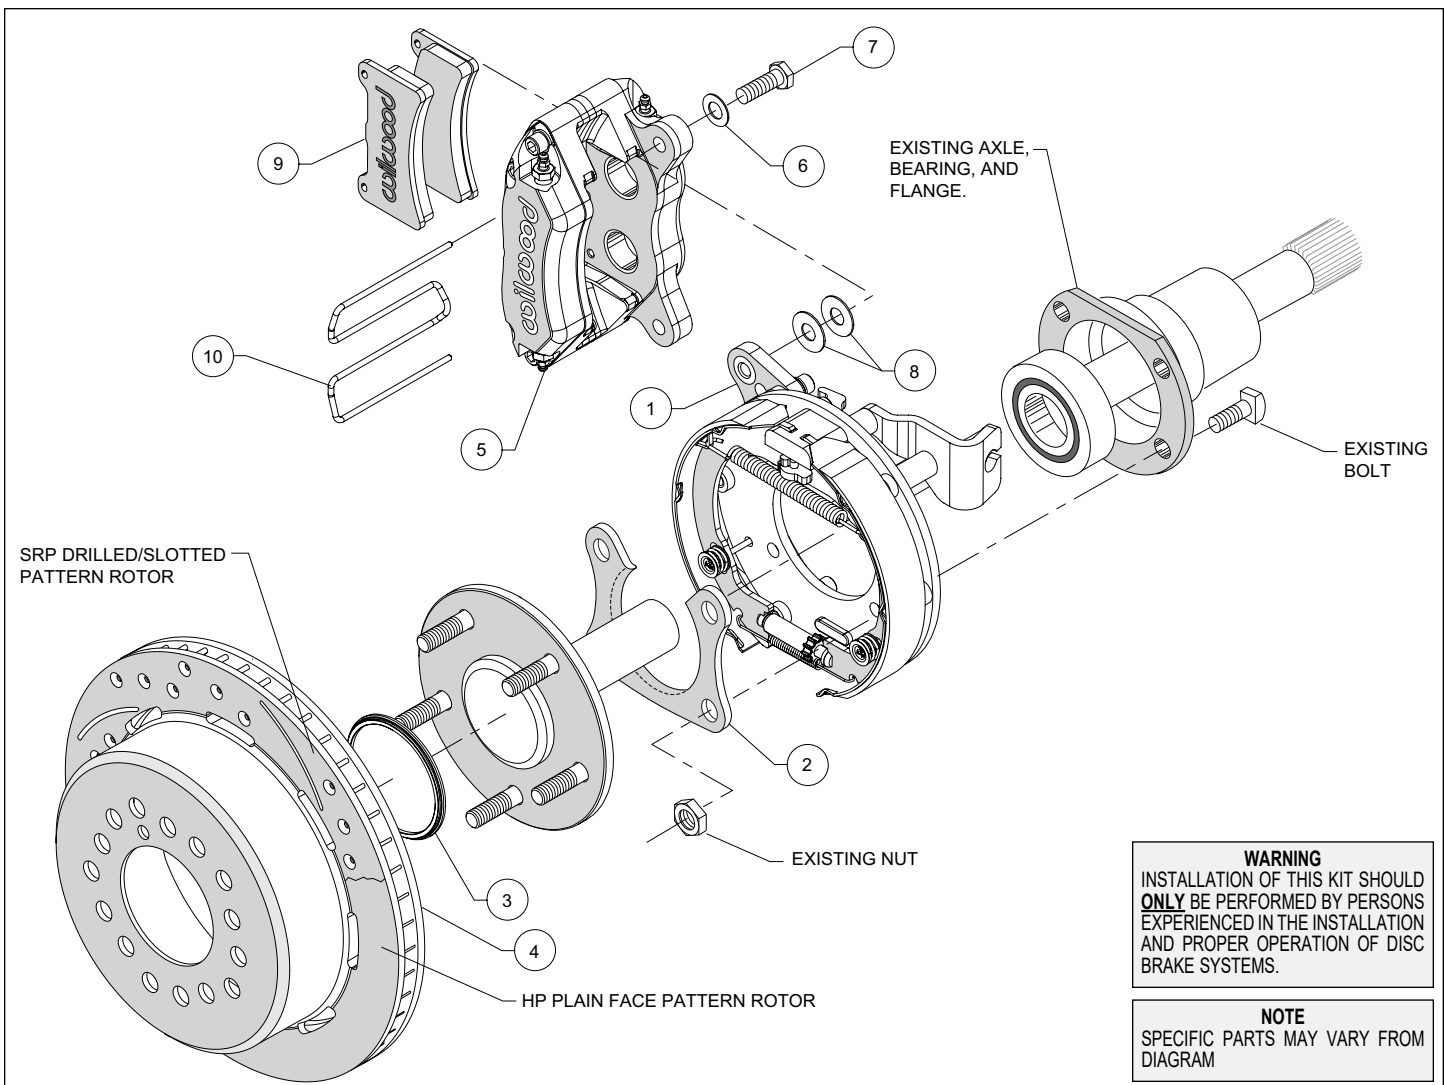
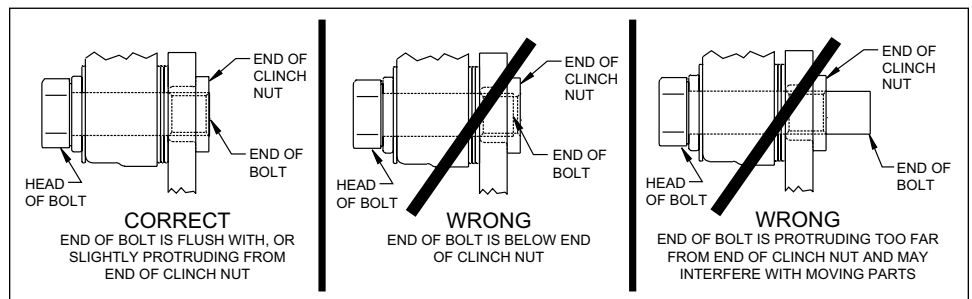

Figure 1. Typical Installation Configuration
Figure 5. Clinch Nut Engagement Diagram
NOTE: Numbers in parenthesis refer to the parts list and Figure 1 on the preceding pages.
CAUTION: All mounting bolts must fully engage clinch nuts. Be sure to check that all bolts are either flush or protruding through flanged side of clinch nut after shimming, Figure 5.
• Orient the bracket assembly (1) as shown in Figure 1 and Photo 1 and slide it onto the axle. Insert the axle and bracket into the axle housing. Ensure that the bracket assembly backing plate fits flush against the axle housing flange.
• Install the bearing retainer (2) with the opening pointing upward and the lip facing inward (toward the bearing), as shown in Figures 1 and 4, and Photo 2. Secure retainer and bracket assembly to the axle housing flange using the Original Equipment Manufacturer (OEM) bolts and nuts, Figure 1. Apply red *Loctite*® 271 to the OEM bolt threads and torque to OEM specifications.
- Slide the rotor registration adapter (3) onto the axle register on the axle flange with the smaller O.D. facing toward the rotor/hat (4), Photo 3. Align the correct hole pattern in the rotor/hat with the stud pattern on the axle flange and slide into place, Figure 1 and Photo 4. **NOTE:** The rotor/hat must fit flush against the axle flange or excessive rotor run out may result. Install three lug nuts (finger tight) to keep the rotor/hat assembly in place while continuing with the installation. **NOTE:** Some OEM and after market axles come with stud sizes larger than 0.50" diameter. Verify stud size and have a qualified machine shop drill the bolt circle of the hat/rotor to the correct stud size, if necessary.
- NOTE:** Please reference the caution statement at the beginning of the assembly instructions. Mount the caliper (5) onto the caliper mounting bracket (1) using bolts (7) and washers (6), as shown in Figure 1. Initially place two .035" thick shims (8) on each bolt between the caliper and the bracket, Photo 5. Temporarily tighten the mounting bolts and view the rotor (4) through the top opening of the caliper. The rotor should be centered in the caliper, Photo 6. If not, adjust by adding or subtracting shims between the bracket and the caliper. Always use the same amount of shims on each of the two mounting bolts. **NOTE:** The end of each bolt must be flush with or slightly protruding from the head of the clinch nut, as shown in Figure 5. If necessary place spare shims between washer (6) and caliper mounting ear to achieve the proper clinch nut engagement. Once the caliper alignment and clinch nut engagement are correct, remove the bolts one at a time, apply red *Loctite*® 271 to bolt threads, and torque to 40 ft-lb.